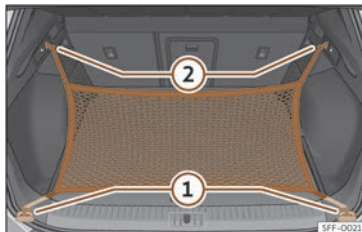

Fig. 121 In the luggage compartment: rings (1) and hooks (2) for attaching the net bag.
- Secure the short net hooks to the fastening rings >>> Fig. 121 (1) >>> . The bag zip should be facing upwards.
- Secure the straps in the bag hooks (2).